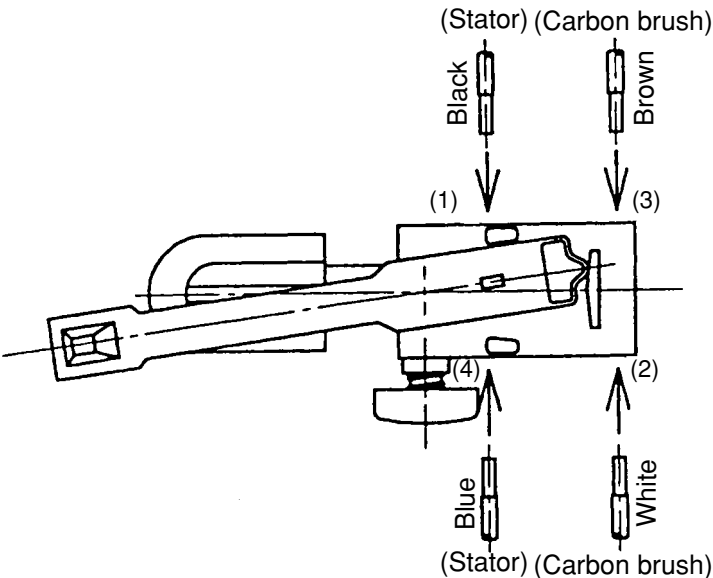

Fig. 14 Wiring of reversing switch
(1) Wiring of reversing switch
Insert the lead wire (black) coming from the stator into the terminal (1) of the reversing switch, and the lead wire (white) into the terminal (2) as shown in Fig. 14. Insert the lead wire (brown) coming from the carbon brush into the terminal (3) and the lead wire (blue) into the terminal (4). After the insertion, pull each lead wire slightly to check the lead wires do not come off. To disconnect the lead wires, insert a small flat-blade screwdriver into the windows near the terminals and pull out the lead wires.